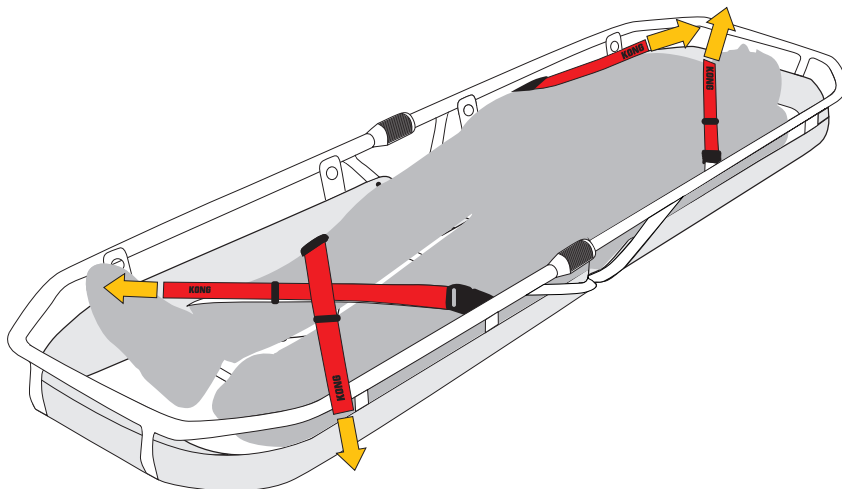

Fig.11
- lay the patient in the stretcher, hook on the buckles and tension the straps until they secure the patient (fig. 11).